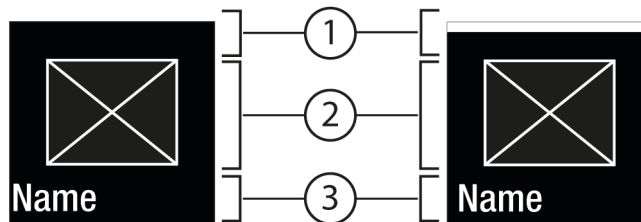
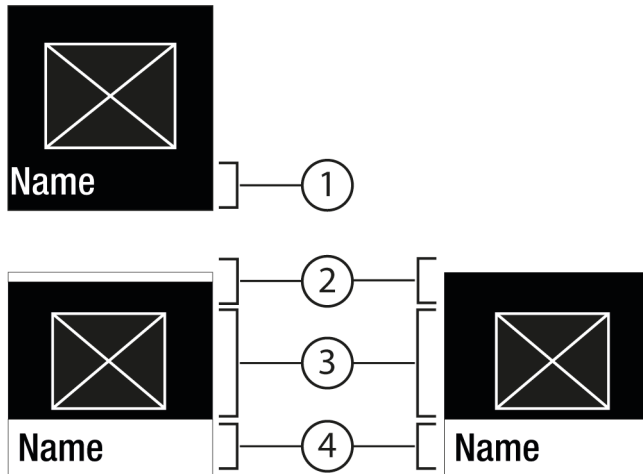

Fig. 6
Fig. 7
- Press Confirm Fig. 5 (2) to open the submenu Fig. 7 (4).
- Set a new value: Press Confirm Fig. 5 (2) to select an active value Fig. 6 (1).
- Back to the menu: Press Confirm Fig. 5 (2) to select the active value Fig. 6 (2).
- ▷ Status: On Fig. 6 (1) appears briefly in the submenu Fig. 7 (4).